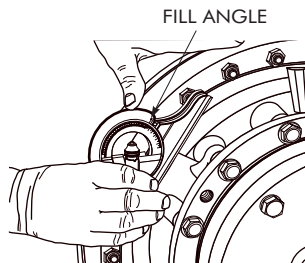

Figure 8
- B. Use either an angle finder or a bevel protractor with spirit level set for the required fill angle, and place it on flat boss of filler hole as shown in Figure 8.